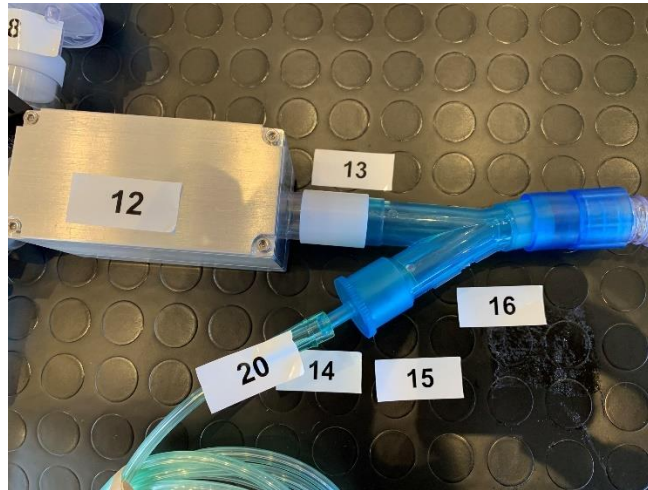

Figure 4.33. Connecting a second oxygen pipe to ABU ventilator to remove rebreathing and compensate for air leakages.
25. If a Continuous Flow of Fresh Air is required to compensate for air leakages and remove rebreathing effect, connect a second oxygen pipe (20) to the ABU Y-connector oxygen port (14) as shown in Figure 4.33.